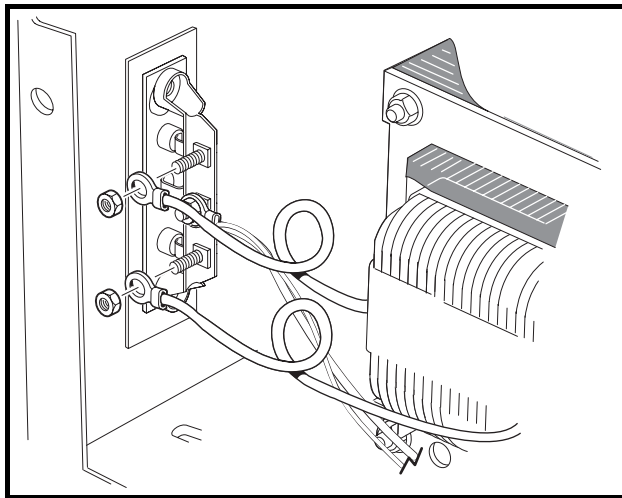

Figure 6-12 Remove Secondary Coil Wires From Heatsink
4. Disconnect transformer secondary coil wires from the heatsink (**Figure 6-12, Page 6-17**).
3. Remove the transformer (tan) secondary coil wire from the upper terminal of the heatsink (**Figure 6-12, Page 6-17**).